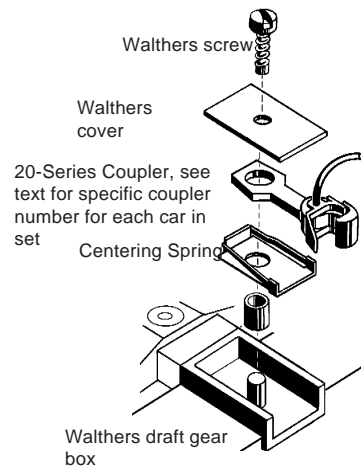

Fig.1
4. Place the #28 Coupler over the post. If needed put a #208 (.015") red washer on and then replace the lid with bottom up. See Walthers Trainline™ GP-9M, Fig.1 page 176.
5. Box Car - use the #29 Coupler. See Fig.1.
6. Caboose - use a #27 Coupler. See Fig.1.
7. Flat Car (with diesel truck) and Gondola cars - use #28 Coupler. See Fig.1.
8. Tank Car - use a #22 Coupler. See Fig.1.